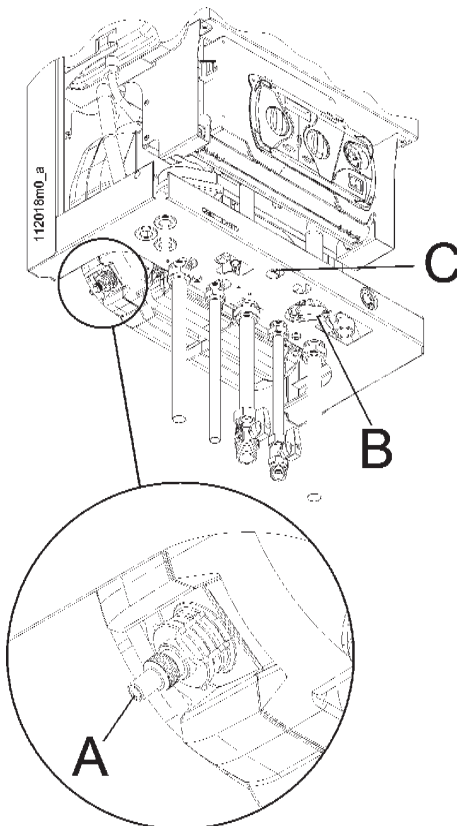

Figure 34 - Purge screw for the domestic hot water heat exchanger
- connect a rubber tube to the pressure coupling "A" shown in figure 34 and place the end in an empty bucket or sink;
- loosen screw "A" as shown in figure 34 until air can be heard escaping;